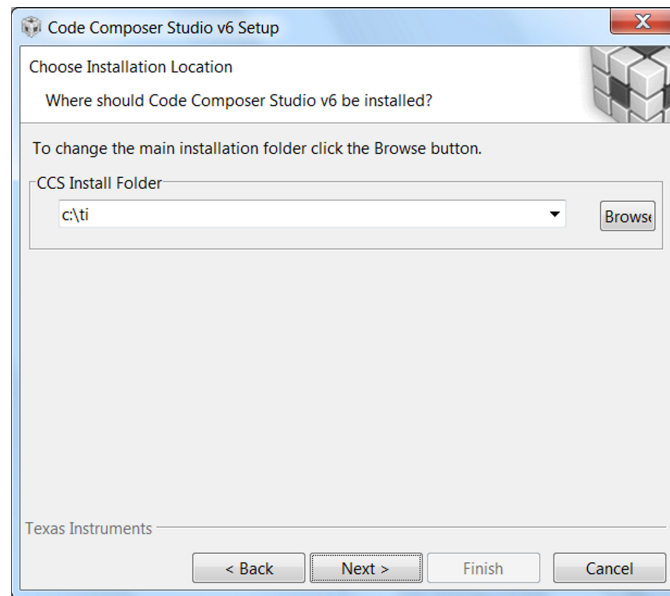

Figure 9. Default Installation Location for CCS
- Step 3. Choose a destination directory. Using the default (`c:\ti`) removes a step in the SDK installation procedure (see Figure 9).